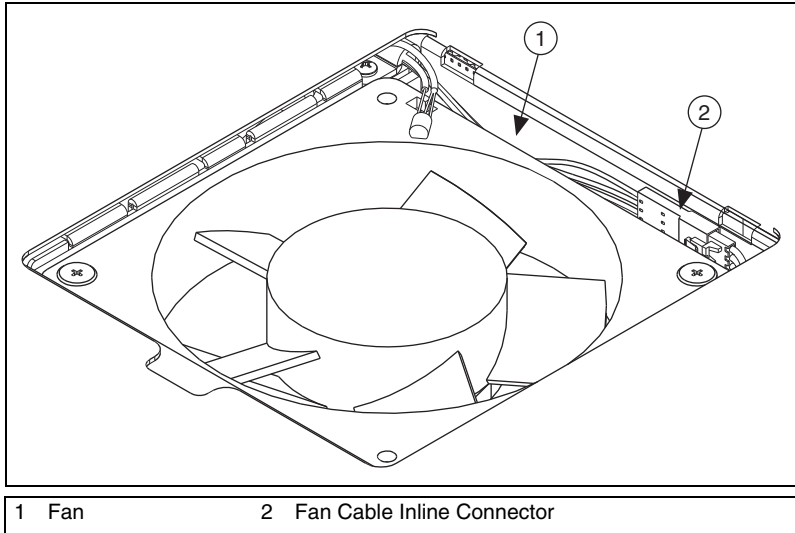

Figure 2. Fan Cable Inline Connector
4. Disconnect the fan cable from the inline connector. The connector is shown in Figure 2.